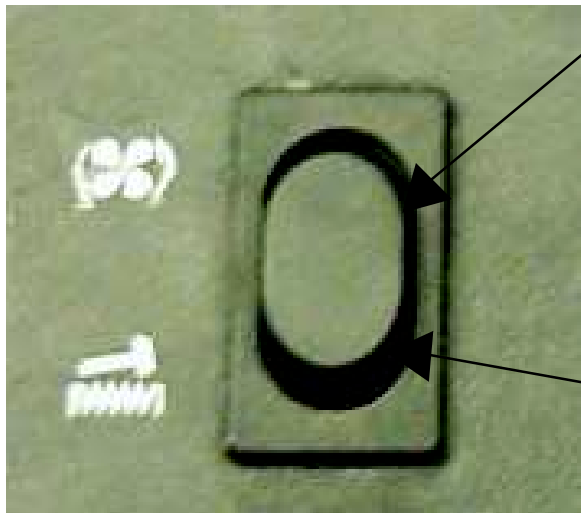

Figure 9
**FILTER SHAKER SWITCH (See Figure 9)**
**DUST CONTROL SWITCH (See Figure 9)**